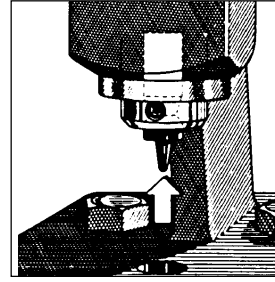

Figure 16. Replacing the Punch
2. Insert a new punch into the holder and push it up until it is fully seated (figure 16). Secure the punch to the chain breaker holder by fully tightening the set screw.